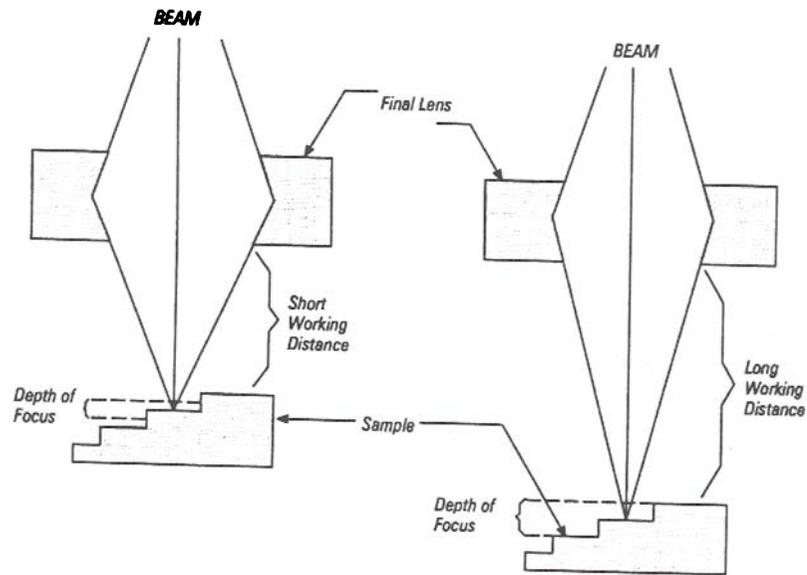

Figure 3.3 Enhancement of Depth of Focus
5. An improvement in depth of focus, the vertical distance over which the sample appears to be in focus, can usually be made by increasing the working distance. An increased working distance has the effect of decreasing the angular aperture of the electron beam. (See Figure 3.3)